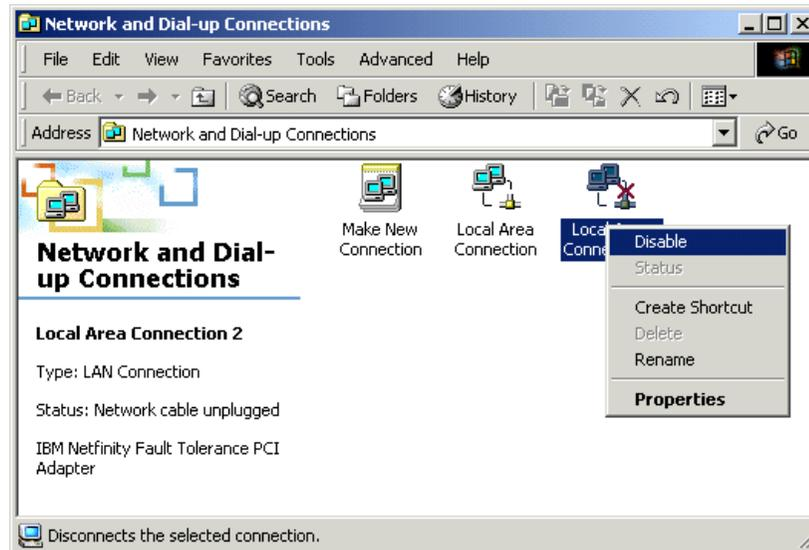

Figure 108. Network and Dial-up Connections
1. Double-click the task bar icon shown in Figure 107. This will bring up the Network and Dial-up Connections window as shown in Figure 108.
2. Right-click the non-working Local Area Connection and choose **Disable** from the context menu, as shown in Figure 108.
2. This brings up the **Network and Dial-up Connections** window, as shown in Figure 108.